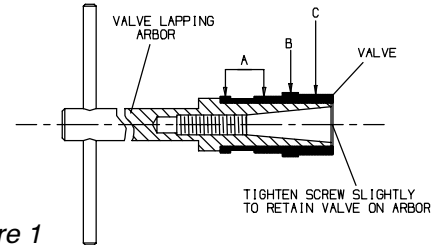

Figure 1
2. Clean and check the Piston (17). Replace it if it is badly worn. Apply a few drops of Ingersoll-Rand No. 10 Oil on the Piston before inserting it into the Barrel, tapered end first.
3. Place the Valve (13) in the Valve Chest (12), large end first. If an oversize Valve is required, it must be lapped into the Valve Chest.
- a. Install the Valve on the No. 29870 Valve Lapping Arbor as shown in Figure 1.